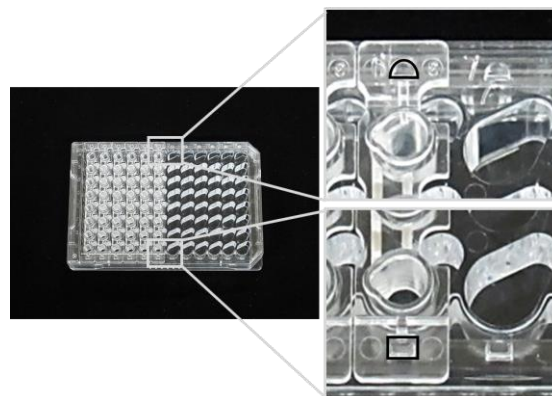

Fig. 3 Insert guide tab structure
- 9) The 8-well inserts are oriented in different directions. When removing the 8-well insert from the insert guide and reinserting it, please align the tab of the 8-well insert with those of the insert guide before setting it in place (Fig.3).